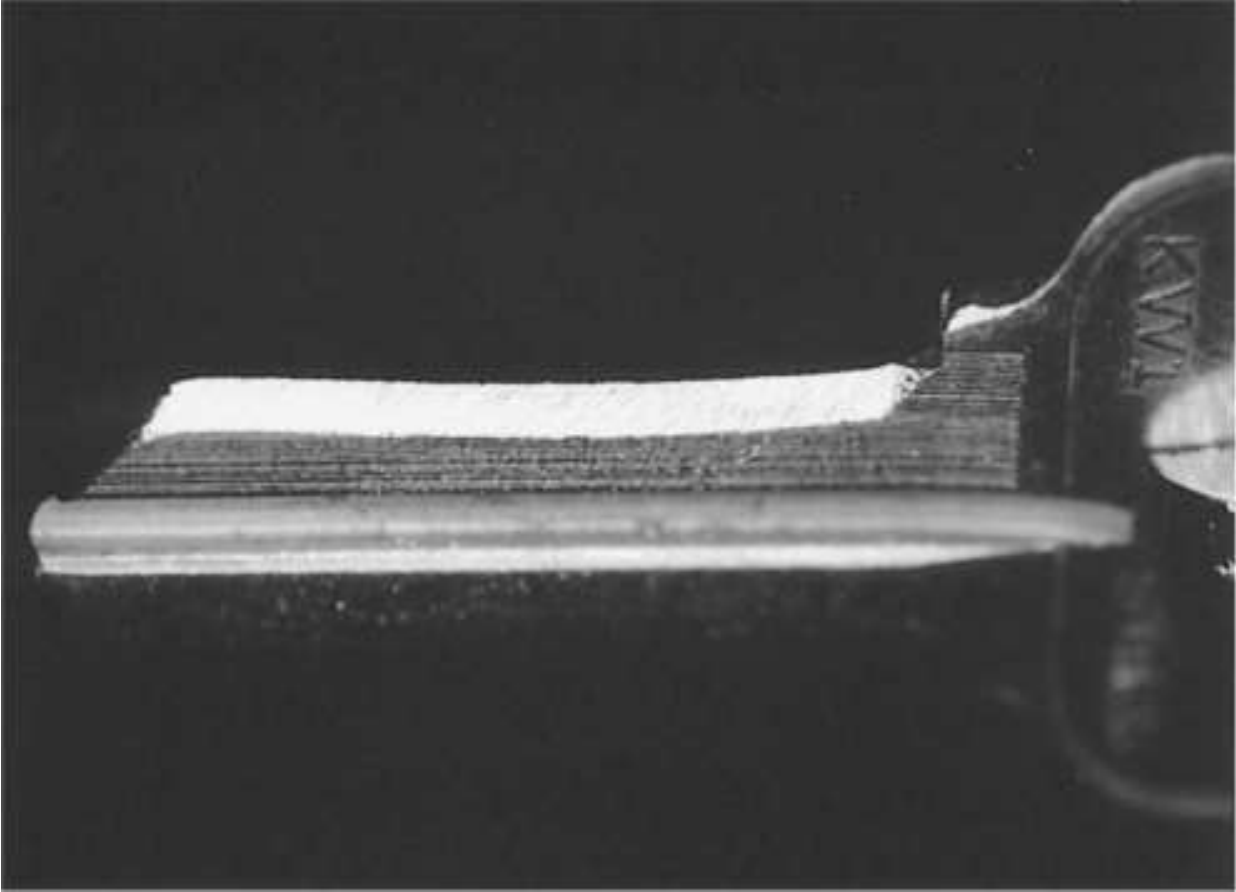

**Figure 14.12** Shave the biting edge of the blank at 45°.
**Filing the blank.** New key blanks have a hardened glazed surface that hinders impressioning unless you prepare them. To prepare a key blank, shave the length of the blade along the side that comes in contact with the tumblers. Shave the blank at a 45° angle without going too deep into the blank (Fig. 14.12). You want the blank's biting edge to be sharp (a knife edge) without reducing the width of the blank because some pins may require a No. 0 cut to reach the shear line. File forward only. Don't draw the file back across the blank.